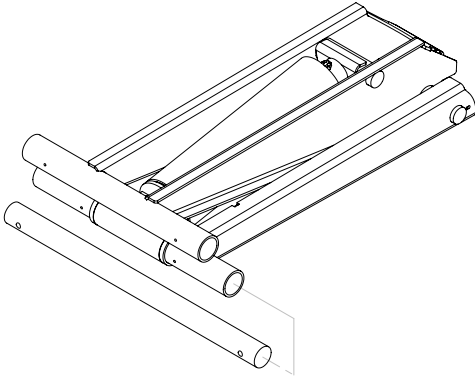

Figure 2: Saddle Tube Location
1. Slide the saddle shaft into the lower tube of the hoist so that approximately 4 inches extend past the tube on each side. (Figure 2)